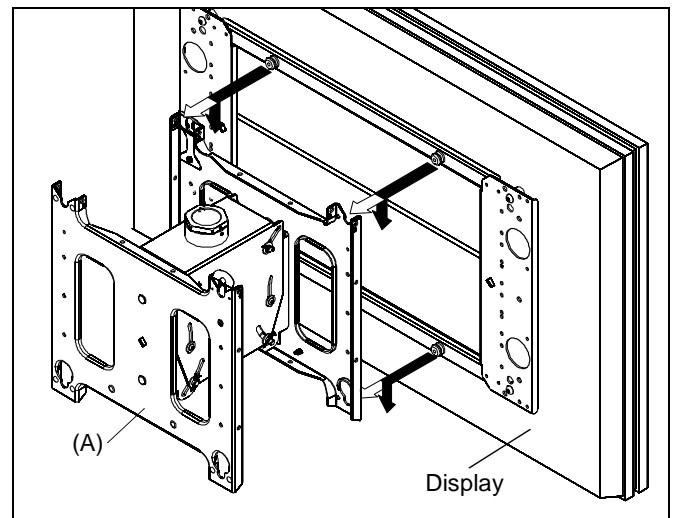

Figure 3
1. While supporting each side of display, align four mounting buttons on display or interface bracket with four slots on PDC. (See Figure 3)